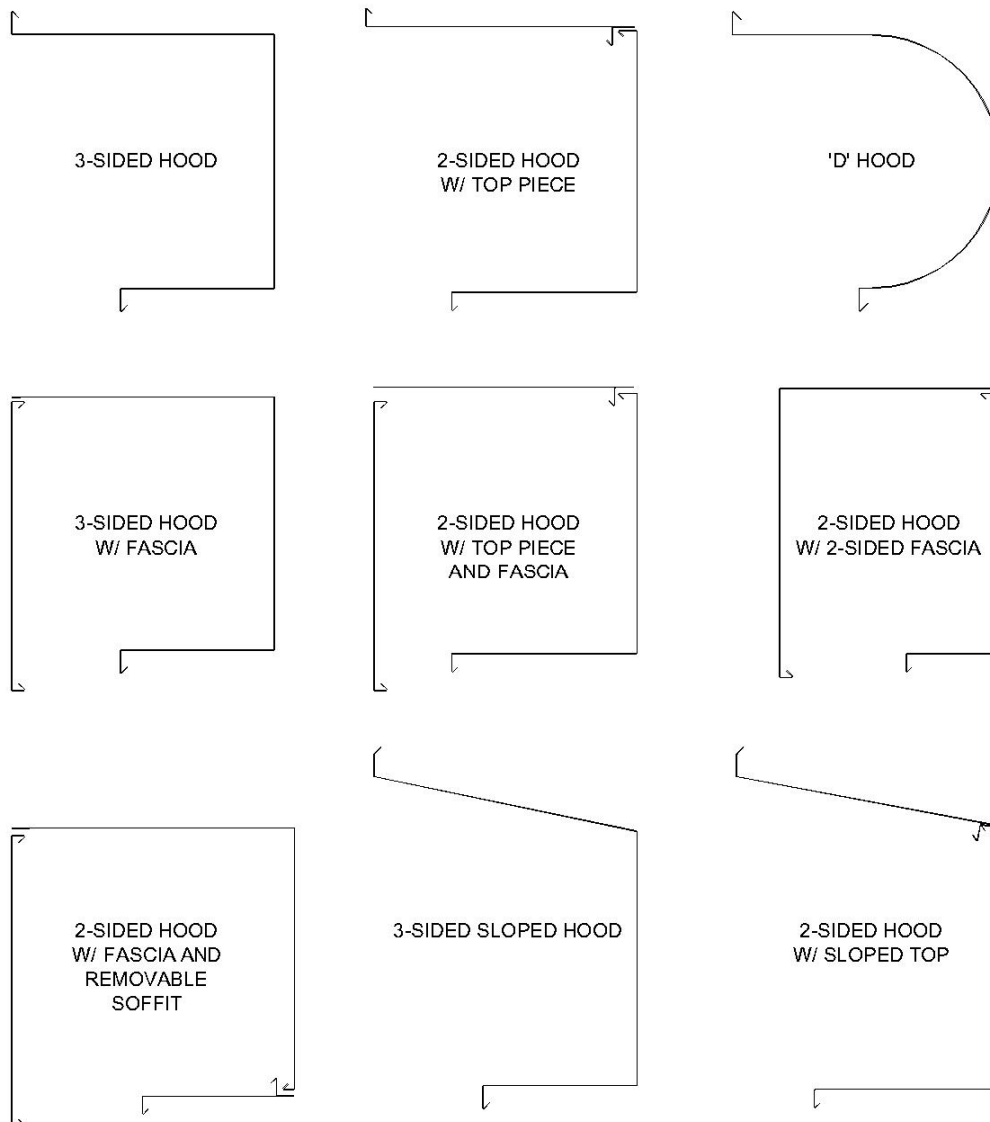

Figure 10.2 - Hood Configurations
2. If a square hood is provided, check the job construction drawings to see if it has multiple parts (such as a two sided hood with a removable soffit, two sided hood without a top piece, two sided hood with a sloped top, etc). See **Figure 10.2** for possible hood configurations.